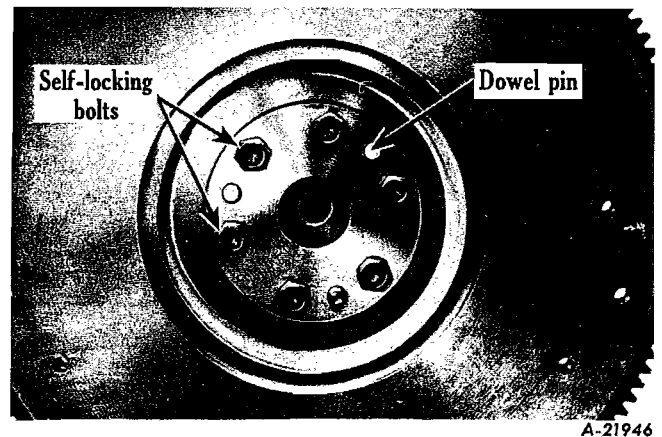

Fig. 30 - Remove self locking capscrews to remove flywheel.
6. With crankshaft securely clamped in vise, remove the six self-locking capscrews holding flywheel to crankshaft (Fig. 30). Tap flywheel with a soft hammer to loosen it from crankshaft; remove flywheel with ring gear assembly.